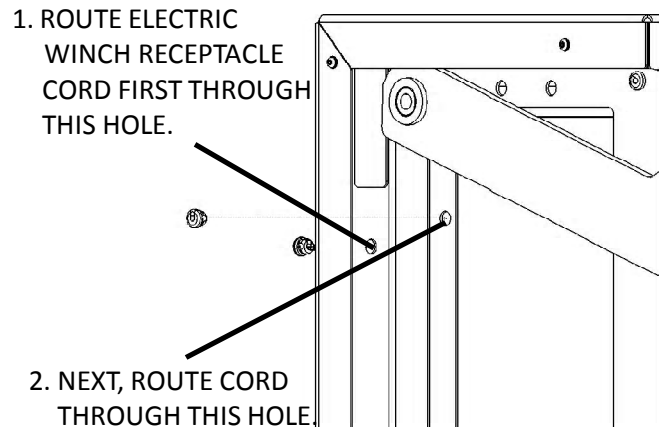

FIG. 4
1. Remove both the left and right side cover panels, electrical cover panel, and rear access panel. Route the receptacle cord first through the .625 hole at the lower left rear corner of the main cabinet. The plug end of the cord will be on the outside of the machine. Secure the cord with strain relief 3707273 approximately 12" from the end of the plug. See FIG. 4.
2. Next, route the cord through the .625 hole located on the left hand side of the machine, and again secure with strain relief 3707273. See FIG. 4.